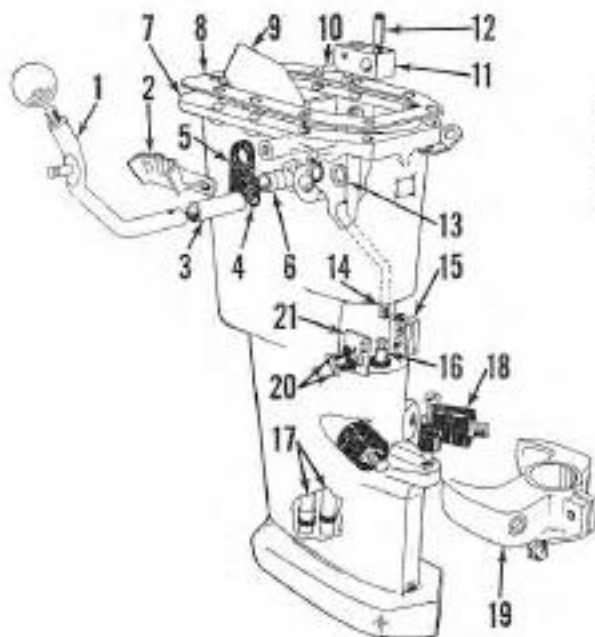

Fig. Mc70 — Exploded view of lower motor housing and associated parts used on Fleet Scott models.
exhaust housing, first disconnect the shift rod coupling (15—Fig. Mc70) then remove the cap screws retaining the pump housing to the exhaust housing (7). Remove the pump housing and gearcase housing as a unit. Disassemble the cooling system and boiler pumps as outlined in WATER PUMP paragraph, then remove pump housing from gearcase housing (11—Fig. Mc69). Drain the gearcase housing and remove the propeller shaft assembly as previously outlined. Remove the split driveshaft retainers (19) then pull the driveshaft seal and inner bearing races out of gearcase. Remove the other gearcase components. Forward gear (20) and upper side of clutch dog (21) are marked with the letter "T" as an aid to proper assembly. Reverse gear
(12) from clevis (10) and turn the clevis up or down on upper shift rod (8) as required.
To adjust the gear shift linkage on Fleet Scott models, drain the gearcase housing and remove the propeller, shear pin and cushion hub, then remove the propeller shaft and housing assembly. Move the shift lever (1—Fig. Mc70) to the neutral detent position and check to make sure that clutch dog (21—Fig. Mc69) is midway between the gears (20 and 22). If it is not, loosen the coupling screws (20—Fig. Mc70) and thread the coupling (15) up or down on upper shift rod (14). Move the shift lever into "Reverse" and move the actuator (21) up or down until the reverse lock yoke is fully depressed, then tighten screws (20).